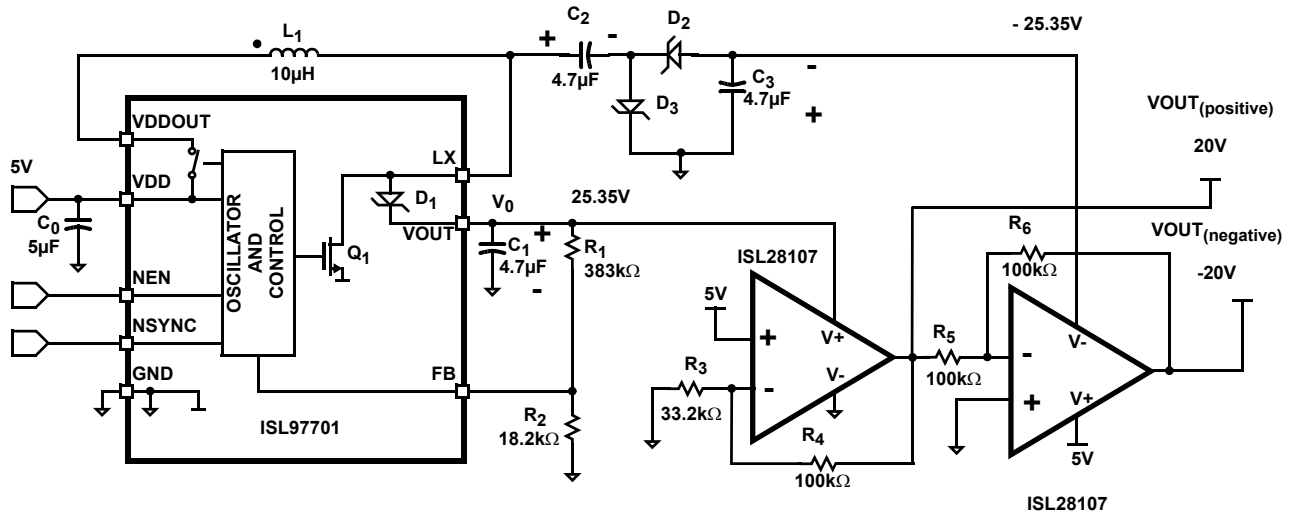

FIGURE 5. REFERENCE DESIGN TO GENERATE A POSITIVE AND NEGATIVE SUPPLY
This application note will discuss a method to combine the operation of a boost regulator and a negative voltage converter. The circuit described will generate both a positive and a negative supply from a single low voltage supply. The circuit in Figure 5 shows the standard ISL97701 application circuit for a +20V supply along with two ISL28107 op amps, two diodes and two capacitors to generate a well regulated -20V supply.
However, the ISL97701's output voltage is not dependent upon any losses in the circuit. This is because all the losses are inside the circuit's feedback loop of the ISL97701, and are automatically accounted for. The output voltage is defined from the feedback resistor network shown in Figure 5 and calculated in Equation 1, where  $V_{refFB}$  is the internal reference voltage of the ISL97701.
The operation of the negative supply is best understood by considering Figure 5. We will start our analysis under steady state conditions (the inductor operating in continuous conduction mode and  $C_1$  is equal to the voltage calculated in Equation 1).
When  $Q_1$  turns off, the inductor voltage flies up turning on  $D_1$  and  $D_3$ . Diode  $D_2$  is blocking current flow from  $C_3$ . The inductor current now charges both capacitors  $C_1$  and  $C_2$  with the polarity as shown in Figure 5. The voltage on  $C_2$  is equal to the voltage on  $C_1$ , plus the forward voltage drop of  $D_1$ .
2. The maximum output current of the circuit shown in Figure 5 is limited by the maximum output current of the ISL28107 op amps, which is 40mA.